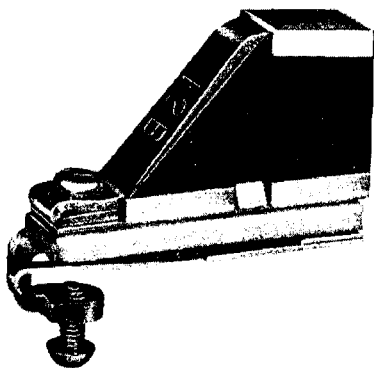

Fig. 20 — 12B Guard
6.13 The 12B guard, Fig. 20, is the same as 12A guard with-addition of a locking screw for maximum security.